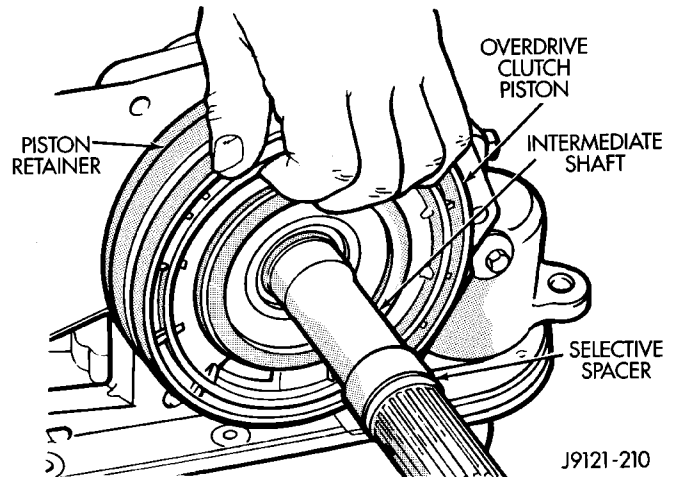
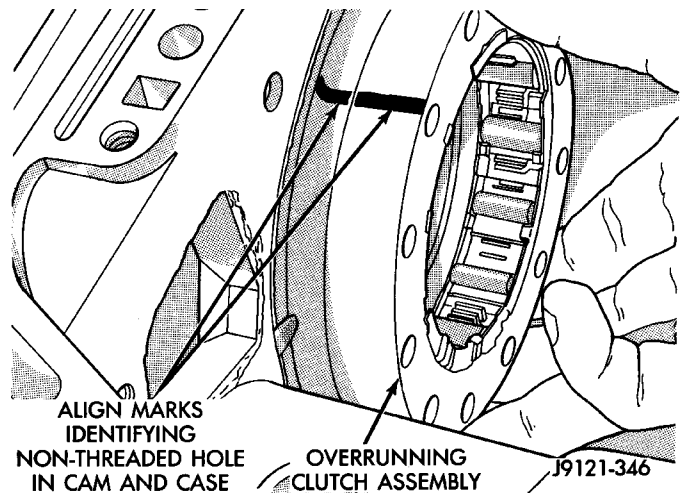

Fig. 130 Overdrive Piston Removal
Fig. 131 Overrunning Clutch Cam Removal
- (1) Remove the overdrive piston (Fig. 130).
- (2) Remove the overdrive piston retainer bolts.
- (3) Remove overdrive piston retainer.
- (4) Remove case gasket.
- (5) Mark the position of the overrunning clutch cam in the case (Fig. 131).
- (6) Remove the overrunning clutch cam bolts.
- (7) Remove the overrunning clutch cam.